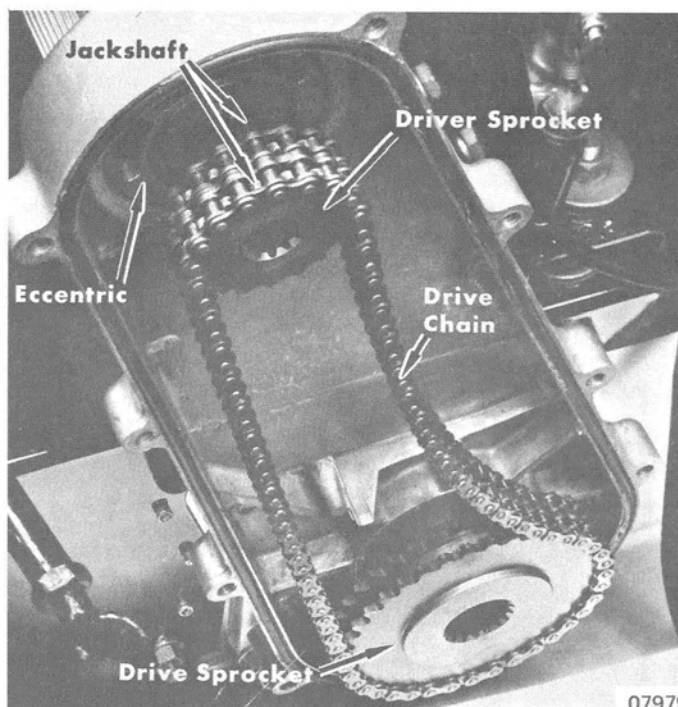

Figure 2. Removing Sprockets
7. Remove drive sprocket, driver sprocket and chain as an assembly. (Figure 2) Note the side of driver sprocket that is against eccentric.